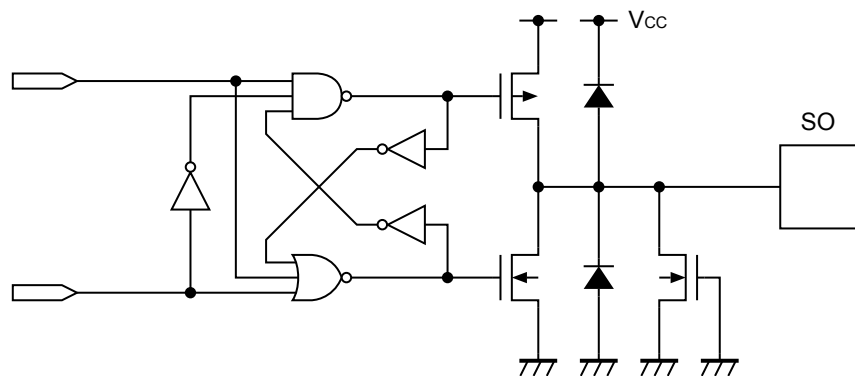

Figure 27 SO Pin
**Figure 27** shows the equivalent circuit of the output pin. This pin has the tri-state output of "H" level / "L" level / High-Z.